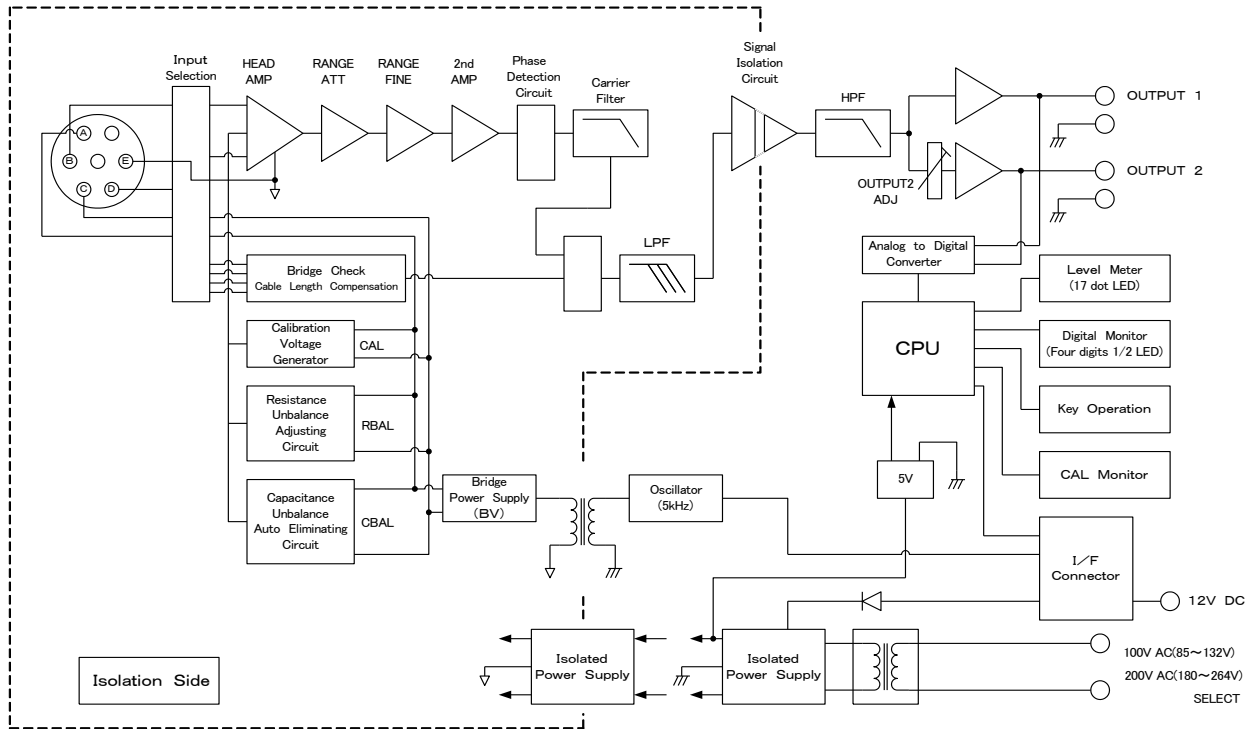

Fig.5-1 Block diagram
5.1 Flow of Measurement Signal (Refer to Fig.5-1)